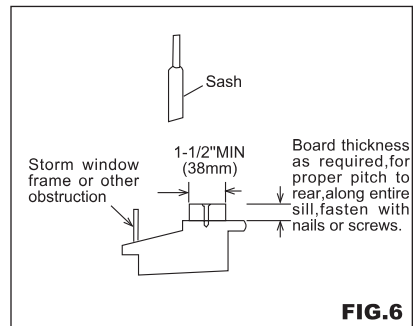

FIG.6
- Add woods as shown in FIG.6, or remove storm window before air conditioner is installed.